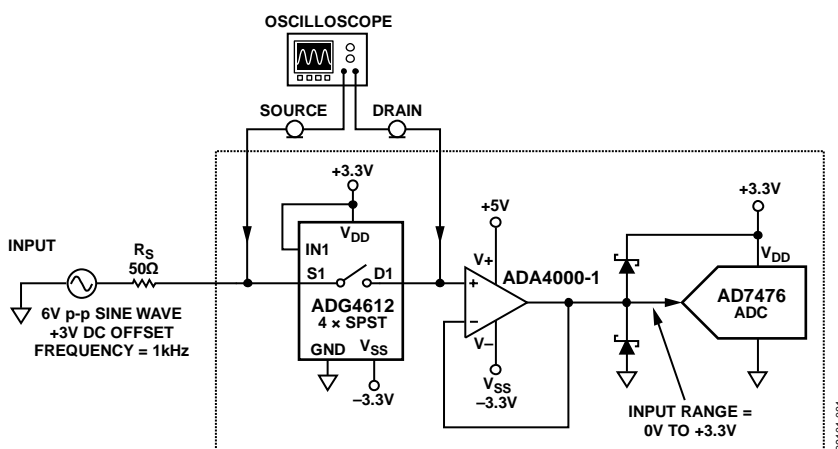
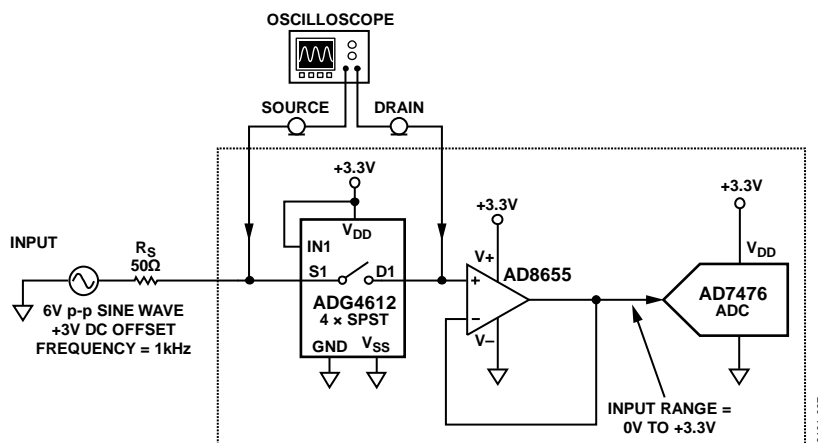

Figure 1. Fault Protected Data Acquisition Signal Chain Circuit (Simplified Schematic: All Connections and Decoupling Not Shown)
Figure 7. Single Supply Fault Protected Data Acquisition Signal Chain Circuit (Simplified Schematic: All Connections and Decoupling Not Shown)
The circuit shown in Figure 1 provides protection to a data acquisition signal chain using a low on-resistance ADG4612 quad SPST with power off protection. The data acquisition system is composed of the ADA4000-1 low cost, precision JFET input op amp followed by an AD7476 low power, 12-bit, 1 MSPS SAR ADC. The ADG4612 provides low cost protection against loss of power while input signals are still present, as well as overvoltage fault protection up to 16 V. The extra board area required for the ADG4612 is minimal because the device is available in a 3 mm × 3 mm LFCSP as well as a 16-lead TSSOP. The ADG4612 provides protection for four separate data acquisition channels without requiring any additional discrete components.
Figure 1 shows a single channel, fault-protected data acquisition signal chain which is made up of the ADG4612, ADA4000-1, and AD7476. The key to protecting the data acquisition board is the protection features of the ADG4612. The switch is in the isolation mode when no power supplies are present, that is, when V_{DD} is floating or $V_{DD} \leq 1$ V or when the input signal, either V_S or V_D , is greater than V_{DD} supply plus a threshold voltage (VT). Under these condition, the switch inputs are high impedance inputs, ensuring that no current flows that can damage the switch or downstream circuitry. The negative supply rail, V_{SS} , can be floating or 0 V to -5.5 V. The ground pin must be connected to the ground potential.
The combination of the ADG4612, ADA4000-1, and AD7476 shown in Figure 1 provides a data acquisition circuit that is robust to fault conditions such as loss of power with signals from external sources still present or overvoltage faults on analog inputs.
Figure 7 shows a variation of the circuit shown in Figure 1 that operates on a single +3.3 V supply. In this application, an op amp with a rail-to-rail input and output is required to drive the AD7476 over its full input range. The outputs of the AD8655 op amp are specified to drive within 10 mV to 30 mV of each supply rail. This means that there are a small percentage of dead band codes at each end of the full-scale ADC range where linearity suffers.